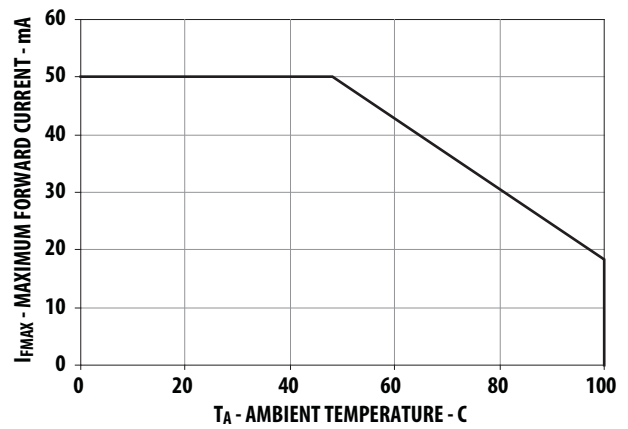

Figure 4. Maximum Forward Current vs Ambient Temperature
1. Derate linearly as shown in Figure 4.